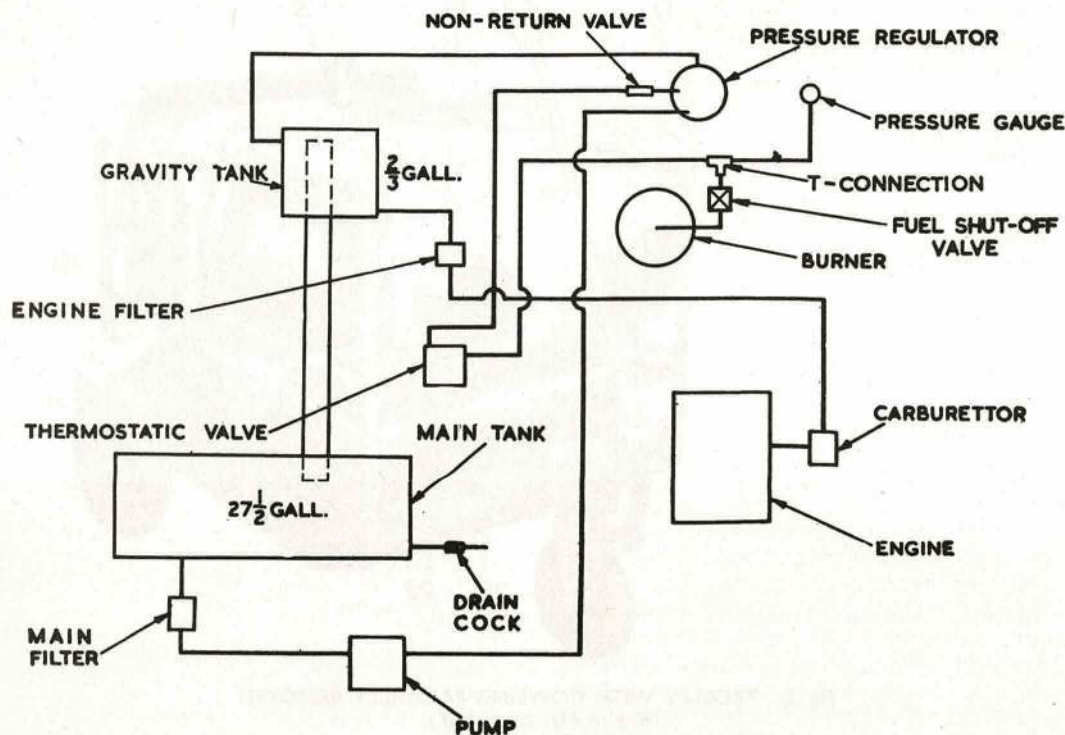

Fig. 3. FUEL SYSTEM
5. The fuel system (Fig. 3) incorporates the following components which, with the exception of the main fuel tank, are housed in the engine compartment:—